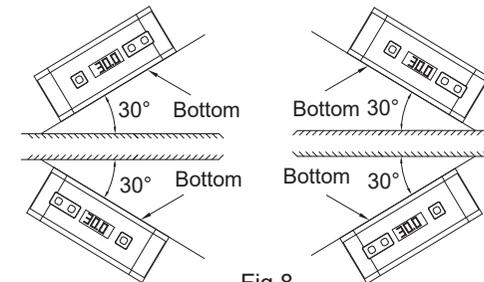

Fig.8
7. The instrument can use in 4-orientation, the display flips over when the bottom faces up.(Fig.8)